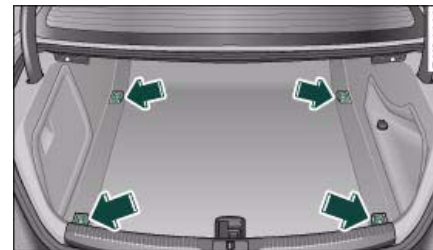

Fig. 83 Location of fastening rings in luggage compartment
- Use the fastening rings to secure the load ⇒ fig. 83 -arrows-.